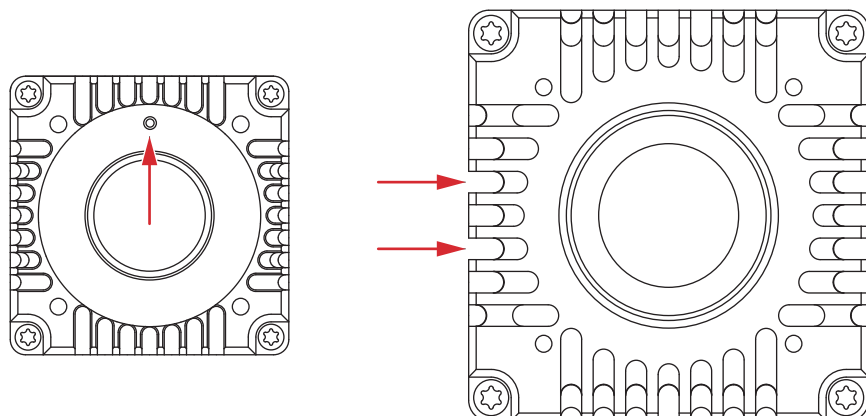

Figure 10: Position of safety screws on mount adapters:
See Figure 10 below for the position of the locking screws.
2. Unscrew the adapter (1) from the camera.
- Loosen the locking screw (2, shown from back of adapter) on the outside of the mount adapter. See Figure 10 on page 44 for the position of the locking screws.
- Loosen the locking screw (2, seen from back of adapter) on the outside of the mount adapter. See Figure 10 on page 44 for the position of the locking screws.